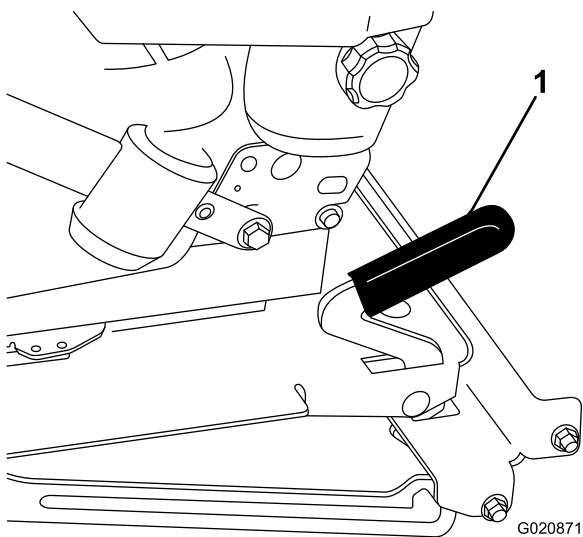

Figure 33
2. Pull the seat latch forward and lift up to unlatch the seat (Figure 33).